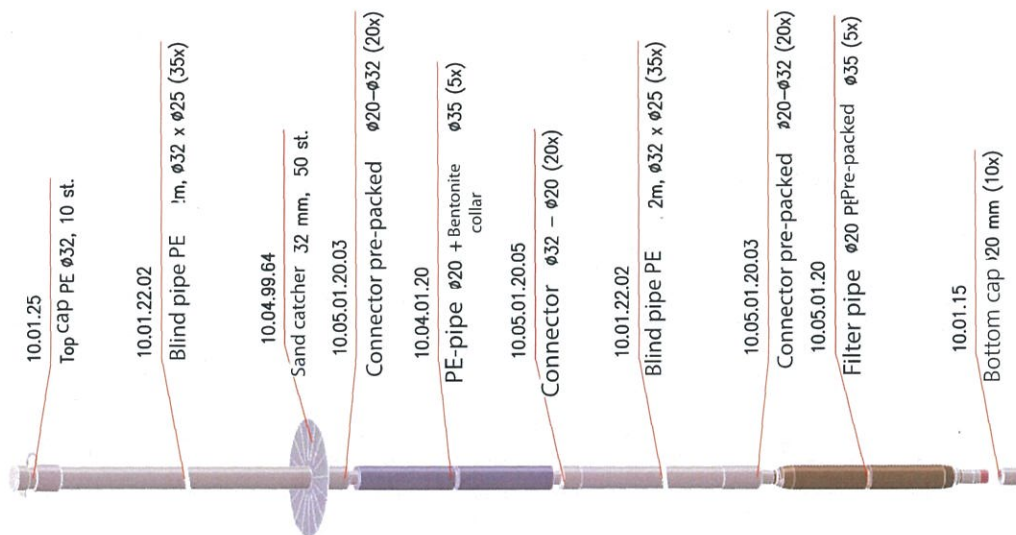

Figure 5
Mini pre-packed monitoring wells were developed for use in casings with a minimal diameter (from 36 to around 45 mm internal). See drawings Fig. 1 to 4. In a casing with a larger diameter (e.g. 77 mm internal) a single pre-packed mini filter can be combined with a Quality monitoring well below / next to it. The thicker components of the Quality monitoring well ensure a good bentonite seal in the borehole left behind by a 100 mm external casing. Where the two blind tubes run parallel to one another a seal can be fitted with bentonite bars (see Fig. 5 Filter duo assembly).
- In no design is it possible to allow a pump or measurement system > 13 mm (such as the Diver) to descend right down into the filter (except in the lower of the two duo filters see Fig. 5). For sampling and Diver measurements this is no problem, as they can also be positioned somewhat higher in the blind and larger section of the well. Providing of course that the equipment remains under water. For the passive sampling system Sorbisense GWSflex (item. no. 12.71.01) it is essential that it is suspended in the filter. So choose our Quality filter. That has an internal diameter of 25 mm over the full length. The Quality filter should be used in casings (or boreholes) with internal diameters from 66 mm.
- Higher up in the duo installation, where the riser pipes run close to one another, a bentonite seal consisting of loose bentonite bars is used. The riser pipes are then surrounded by the recesses in the bentonite bars. Two bentonite bars are necessary per half metre. They are made to fit a 77 mm internal casing (see also Fig. 5). The seals have a swelling capacity for casings with an external diameter of 107 mm.
\*\* = only for lowest monitoring well in duo construction (Fig. 5)
### Figure 5 shows: